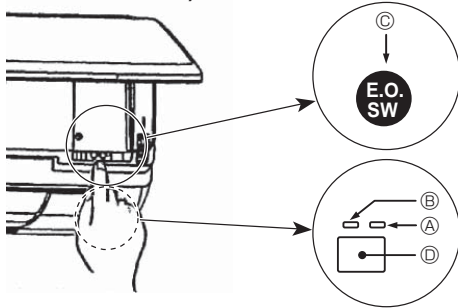

Fig. 9-2
- To stop operation, press the ⚙ button (D) or the ⚙ button (C) for more than 2 seconds.
[Fig.9-2] (A) DEFROST/STAND BY lamp (Orange)